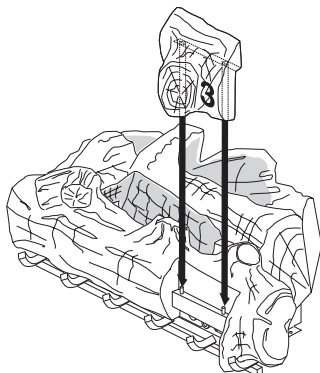

Figure 29 - Control Cover Log Placement (Remote-Ready Models)
3. Place control cover log onto two pins on front log assuring the cover log seats into cutout section of front log (see Figure 29, page 19).